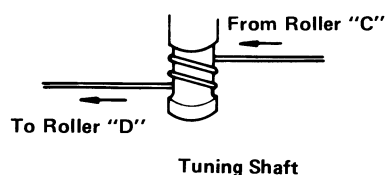
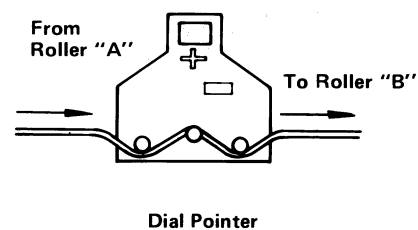
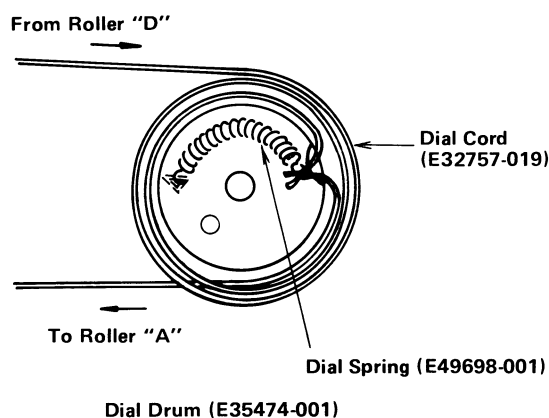

Fig. 16
Fig. 17
Fig. 18
- (1) Remove dial pointer and old dial cord.
- (2) Tie end of new dial cord to one end of dial spring, connect other end of dial spring of bottom right eye inside dial drum. See Fig. 18.
- (3) Rotate the tuning capacitor dial drum to its maximum counterclockwise.
- (4) Run the dial cord through the slot in the rim of the dial drum.
- (5) Pull dial cord taut and wrap 2 turns clockwise around tuning shaft. Refer to Fig. 16.
- (6) Guide the dial cord under and around rollers "A", "B" and "C". Keep the dial cord taut during this procedure.
- (7) Guide the dial cord under the dial drum and wind 2-1/2 turns clockwise. See Fig. 18.
- (8) Turn the tuning shaft to rotate the dial drum fully counterclockwise and fully clockwise to distribute the tensioning along the dial cord.
- (9) Place the dial cord over and under the tabs on the rear of the dial pointer and place the dial pointer on the top of the dial panel rail. Refer to Fig. 17.
- (10) Turn the tuning shaft clockwise. Slide the dial pointer to zero (0) calibration marker on the logging scale while holding tuning shaft fully clockwise. Cement the dial pointer to the dial cord to prevent slippage. Allow cement to dry thoroughly.
- (11) Check the dial calibration. Refer to FM/AM Alignment on pages 10, through 12.
- (12) Replace the top cover.